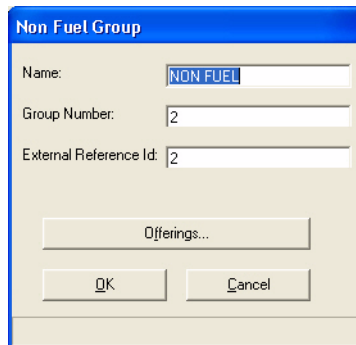

Figure 10-3 Non Fuel Group Window
- To modify a group, highlight the group that you want to change and select **Modify**. When you select Add or Modify, the Non-Fuel Group window appears. See Figure 10-3.